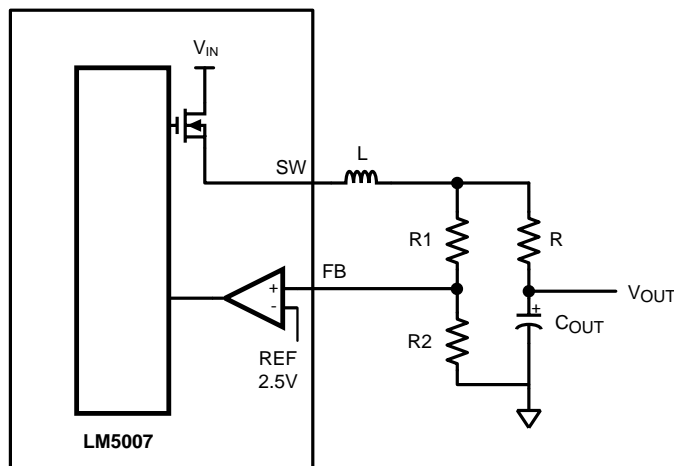

Figure 4. Low Output Ripple Voltage Configuration
The output voltage ( $V_{OUT}$ ) can be programmed by two external resistors as shown in Figure 4. Calculate the output voltage setpoint using Equation 3.
For applications where lower output voltage ripple is required, the load can be connected directly to the low ESR output capacitor as shown in Figure 4. The series resistor (R) will degrade the load regulation. Another technique for enhancing the ripple voltage at FB is to place a capacitor in parallel with the upper feedback resistor, R1. The addition of this feedforward capacitor reduces the attenuation of the ripple voltage from the feedback divider.